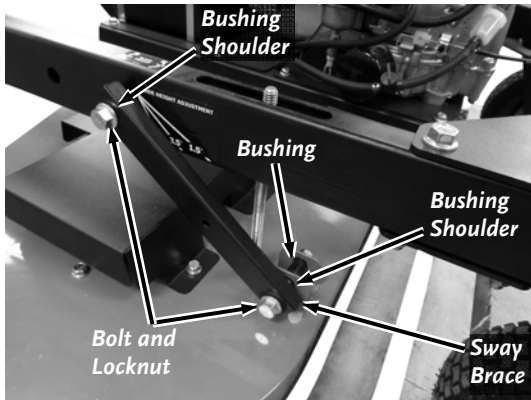

Figure 12
10. Install the Bushings into the sides of the Frame with the long portion of the Bushing fully into the Frame Bracket (**Figure 12**). The Bushing shoulder should be tight against the Bracket.